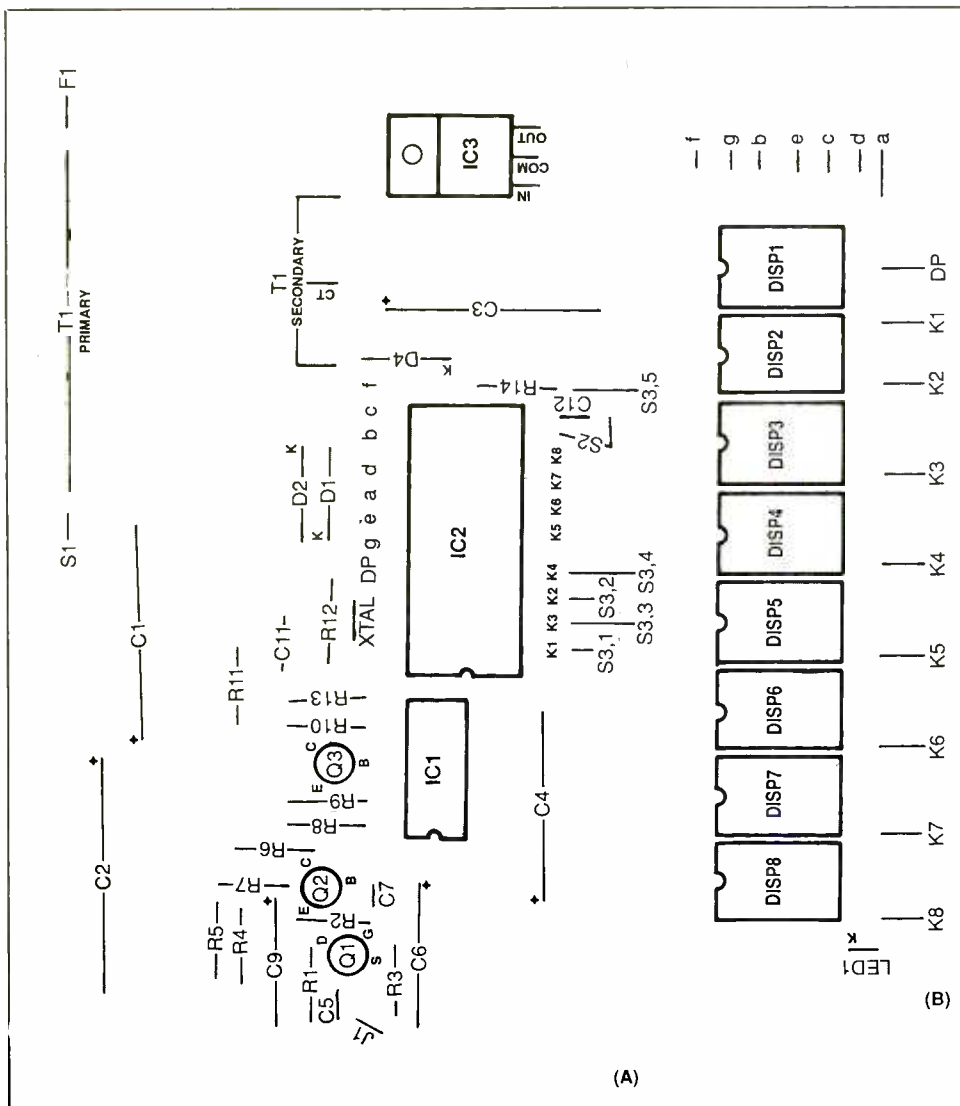

Fig. 4. Wiring guides for main and display boards.
Bend the pins of regulator *IC3* at a 90-degree angle toward the rear of the device. Plug the pins into the *IC3* holes in the main board in the orientation shown in Fig. 4(A). Press the regulator down on the board so that its metal surface lies flat against the top of the board and trace the outline of its mounting hole onto the board. Remove and set aside the regulator. Then use a $\frac{3}{32}$ -inch drill to bore a hole through the board in the center of the drawn outline.
As above, prepare eight 7-inch stranded hookup wires. Plug one end of each of these wires into the holes in the board labeled *S1*, *S2*, *S3*, *S4*, *S5*, *S6*, *S7*, and *S8*. Solder all wires into place as you install them. Keep in mind that the project contains a high-gain, high-frequency amplifier section. Therefore, if you decide to wire on perforated board, follow the component layout shown in Fig. 4(A) as closely as possible. Also, keep all component leads as short as possible. Temporarily set aside the main circuit-board assembly.
Place the display board in front of you in the orientation shown in Fig. 4(B). It is important that you use sockets for mounting the seven-segment displays on this board. Fortunately, all you need are the low-cost conventional sockets commonly used with DIP ICs. Though the displays themselves have pins missing on them, you can use IC sockets without having to modify them. (Note: If you use the display board from the source given in the Note at the end of the Parts List, you must